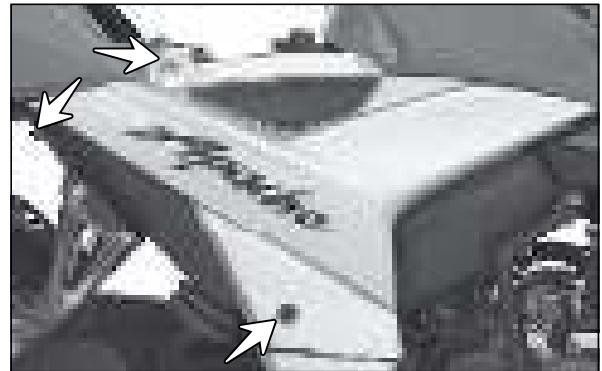

Fig. 2.2
- Remove the CRR pan head screw (M6x16 - 3 Nos.) from the cover frame R. (Fig. 2.2)